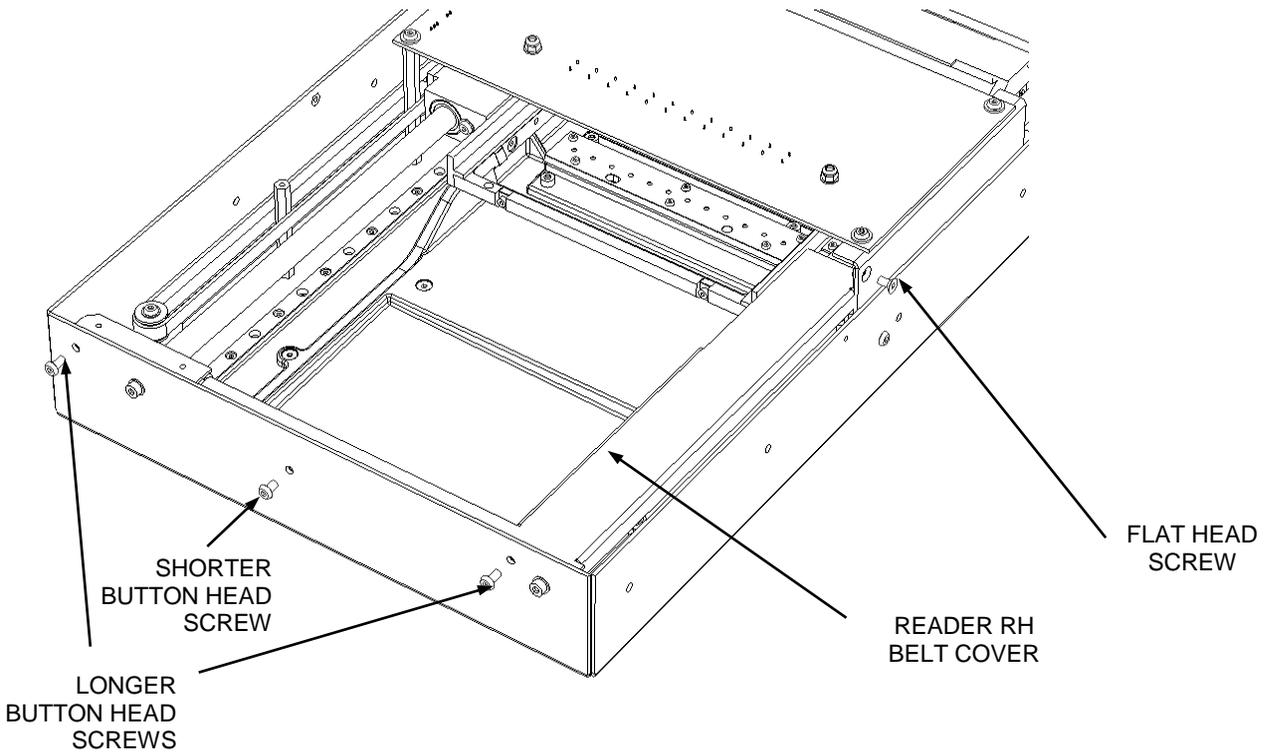

Figure 12-9: Removing the Right Hand Belt Cover
1. To remove the right hand belt cover, remove the M3x6 Skt Csk Screw, two M3x6 Skt Btn Screws and the M3x5 Skt Btn Screw (Figure 12-9).